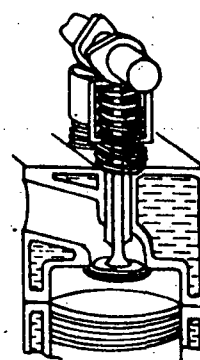

Fig. 5
- All the parts are situated on the cylinder head (fig. 5).